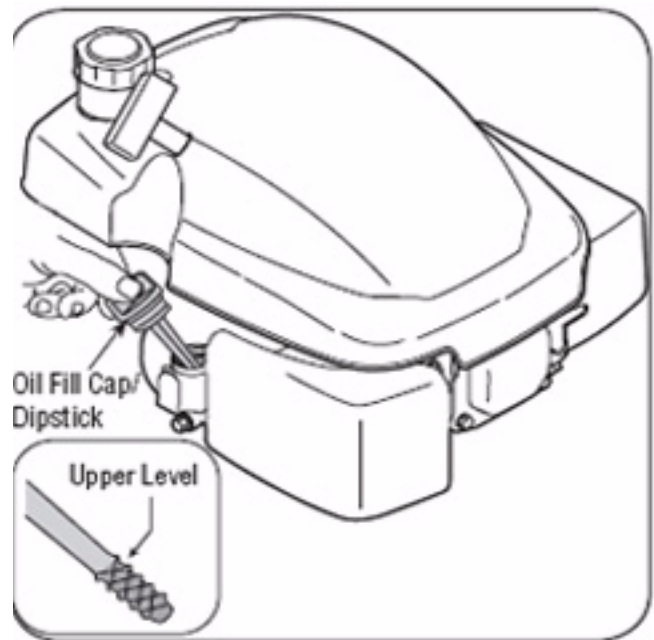

Figure 5.2
2. Insert the dipstick into the engine block, but do not screw it in. See Figure 5.2.